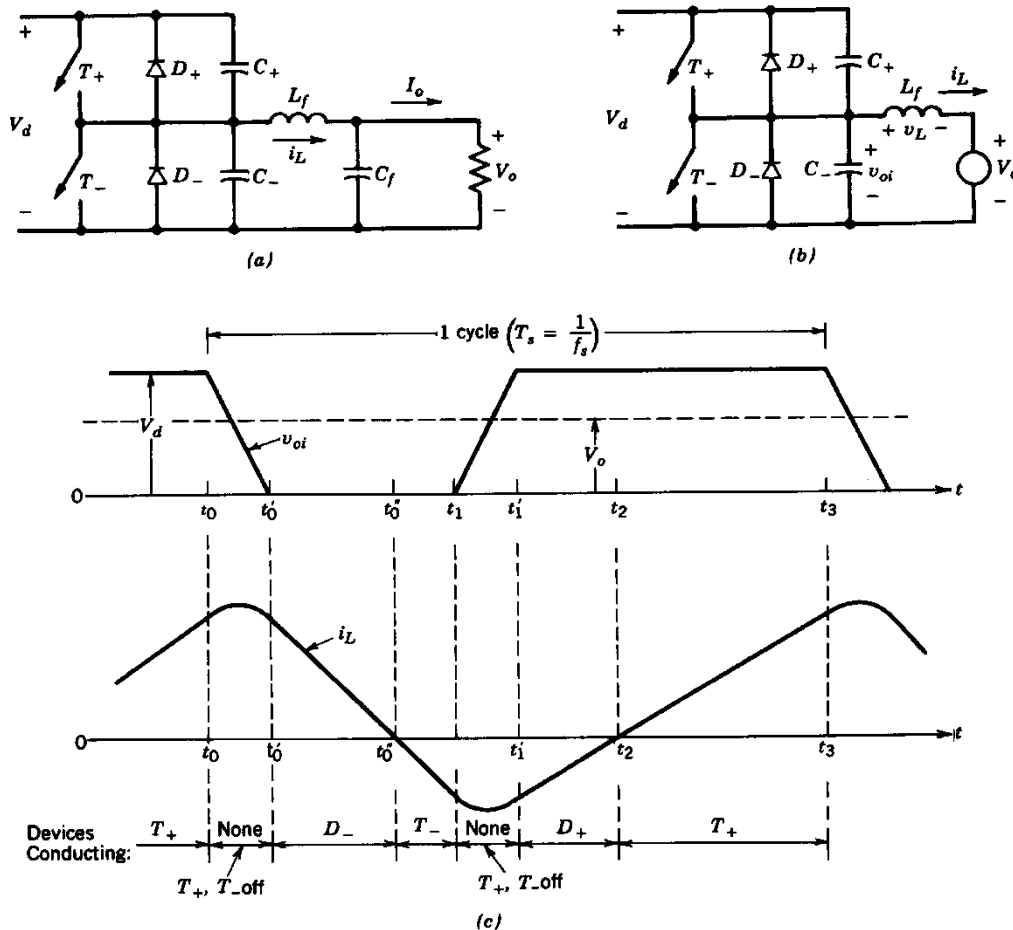

Figure 9-34 ZVS-CV dc-dc converter.
- C_f is large, so the load and C_f can be replaced by a V_0 in steady state, see Fig.9-34(b)